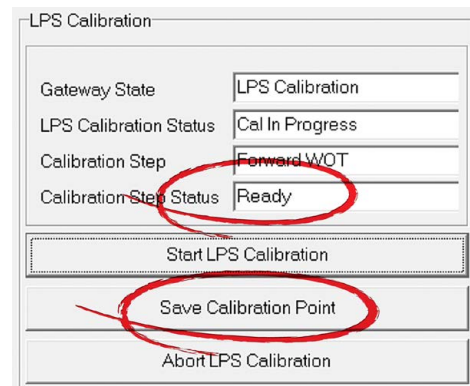

Figure B-23. Forward WOT Ready lever in position.
- Move both control levers to the forward WOT position. The Calibration Step Status will change from 'Not Ready' to 'Ready.' (See figure B-23.) Click **Save Calibration Point**.